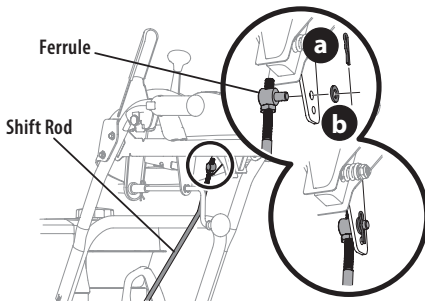

Figure 32
- Remove cotter pin (a) and washer (b) from ferrule on end of shift rod (Figure 32 inset).
- Insert ferrule into top hole of shift lever and secure with cotter pin (a) and washer (b) removed in Step 8 (Figure 32). Ferrule may need to be adjusted up or down.